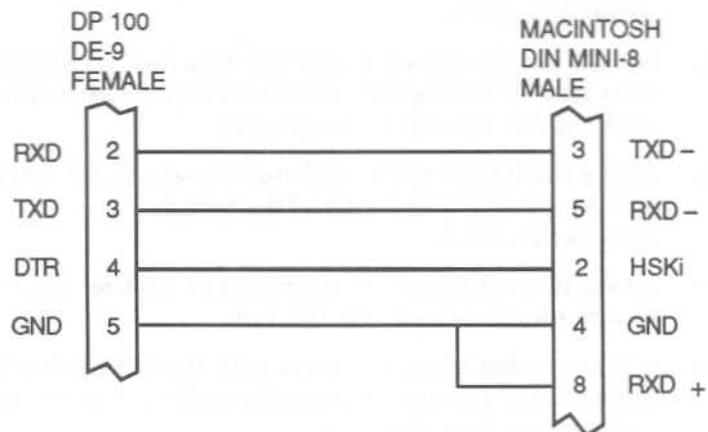

Figure 5-2. DP 100-to-Macintosh RS-232 Cable
The signal connections between a DP 100 RS-232 port and an Apple Macintosh or an IBM PC/AT or compatible personal computer are shown in figures 5-2 and 5-3, respectively. DP 100-to-IBM PC cables (PC-MC) and DP 100-to-Macintosh cables (PC-AC) are available from Analogic. See Appendix B, ACCESSORIES.
- (1) Connect the DP 100 to the host computer according to figures 5-2, 5-3, or other applicable information.
- (2) Set the computer's serial port to 8 data bits, no parity, and 2 stop bits. If this setting cannot be made, communications with the DP 100 will not be possible.
- (3) Using the BAUD auxiliary function, set the DP 100 data rate to match the data rate of the host computer. See Section 3.5.5.
- (4) Using the commands as described in Section 5.3, verify communications with the DP 100.
- (5) If when trying to communicate with the DP 100 the REM annunciator flashes consistently and cannot be cleared, perform the following steps:
Connector pins not specified in figures 5-2 and 5-3 are not connected.